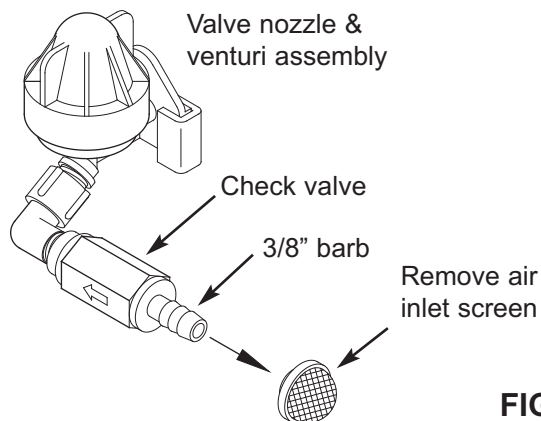

FIG. 14
2. Remove air inlet screen from check valve on the valve's nozzle & venturi assembly (See Figure 14).